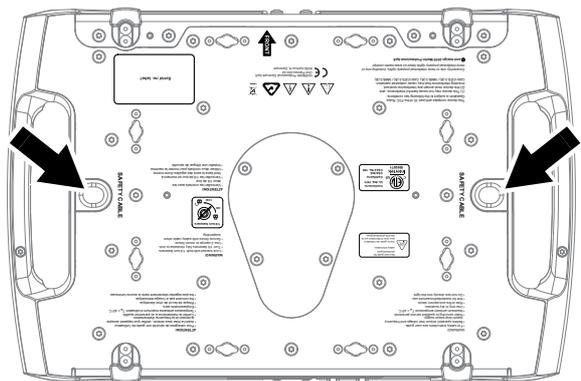

Figure 6: Safety cable attachment points
6. See Figure 6. Install a safety cable that is approved as a safety attachment for the weight of the fixture by looping it through one of the safety cable attachment points (arrowed) in the bottom of the base and around a secure anchoring point so that the safety cable will catch the fixture if a primary attachment fails. Remove as much slack as possible from the safety cable (by looping it more than once around the truss, for example).